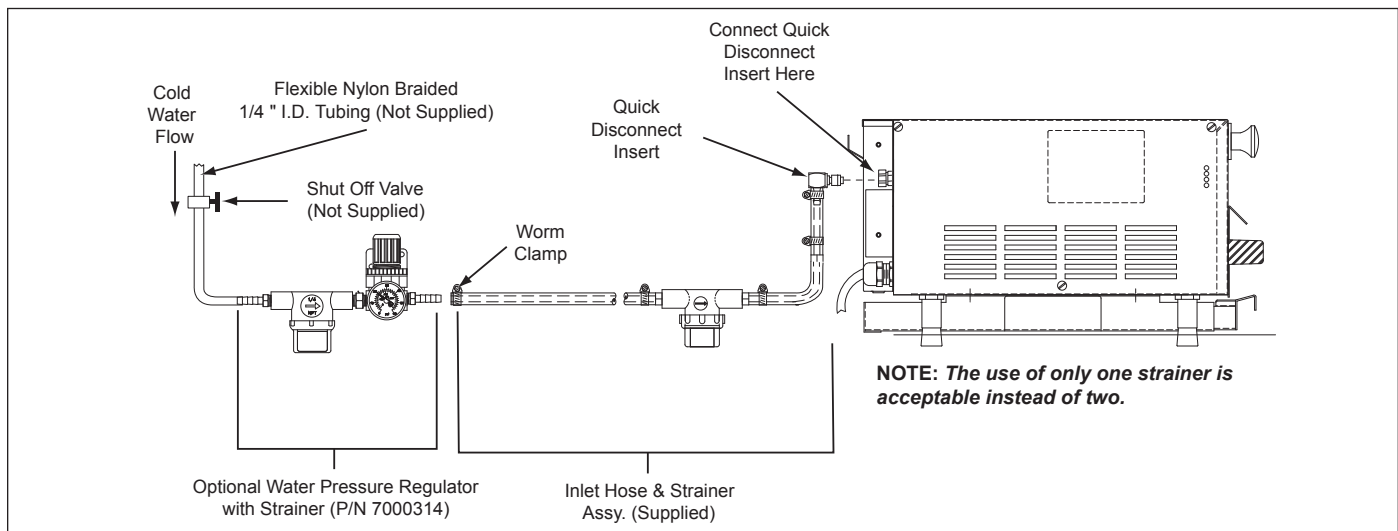

Figure 4. Connecting Water Supply
These units require a direct cold water hookup. A Water Inlet Hose and Strainer Assembly (Figure 4) is supplied.
**NOTE:** **Incoming water is controlled by a normally closed (NC) solenoid valve located inside the Steamer's electrical housing.**
1. Turn off the water valve (not supplied) that supplies water to the unit (Figure 4).
2. Connect the 1/4" (6.5 mm) I.D. Flexible Tubing to the outlet side of the Water Pressure Regulator and secure using the Worm Clamp (Figure 4).
**NOTE:** **A Water Pressure Regulator must first be installed (Figure 4). Failure to do so will result in poor steaming and possible flooding. For a single steamer, use Water Pressure Regulator P/N 7000314. For two adjacent steamers, use Water Pressure Regulator P/N 7000235.**
7. Push the Quick Disconnect Insert into the fitting at the rear of the unit until it clicks (Figure 4).